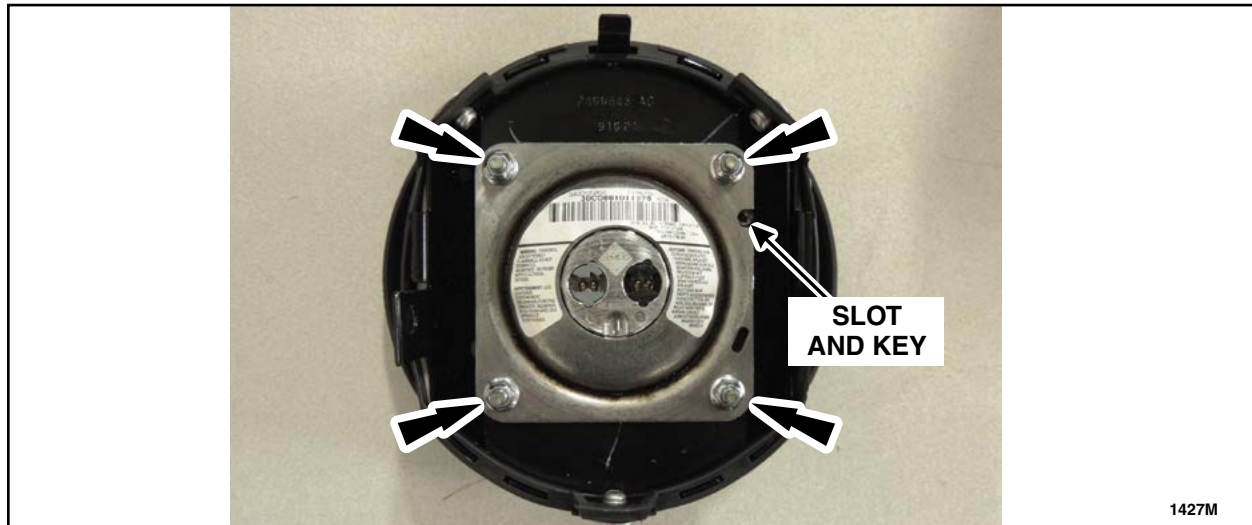

FIGURE 4
4. Align the key on the driver airbag with the slot on the *new* inflator. Install the *new* inflator into the driver airbag. See Figure 4.
5. Install four *new* airbag inflator nuts onto the driver airbag. See Figure 4.